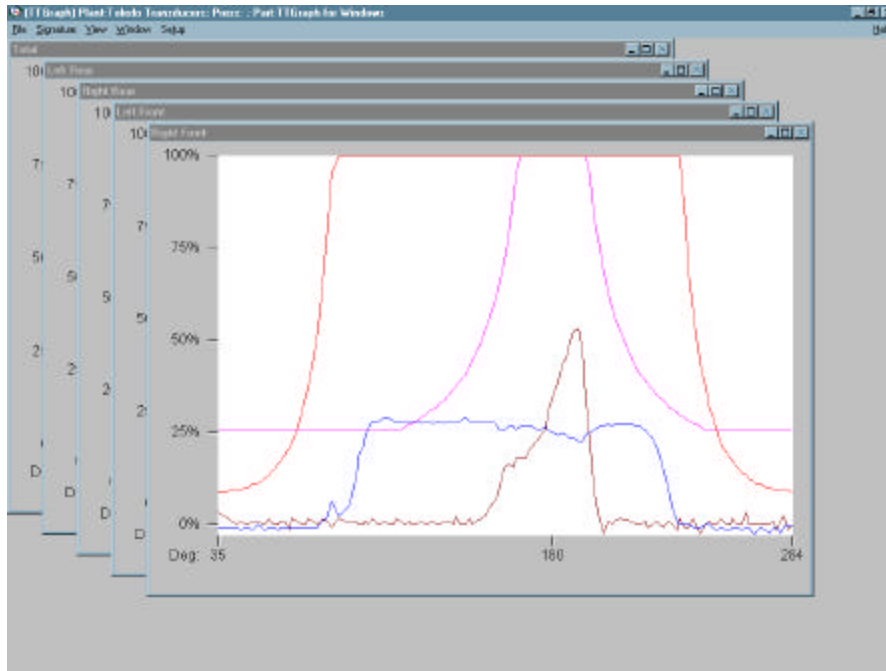

Figure 12: Signatures in Cascade view.
1. Choose Window on the menu bar and then choose Cascade to see all four corner signatures (and the Total) Cascaded. (See Fig 12).